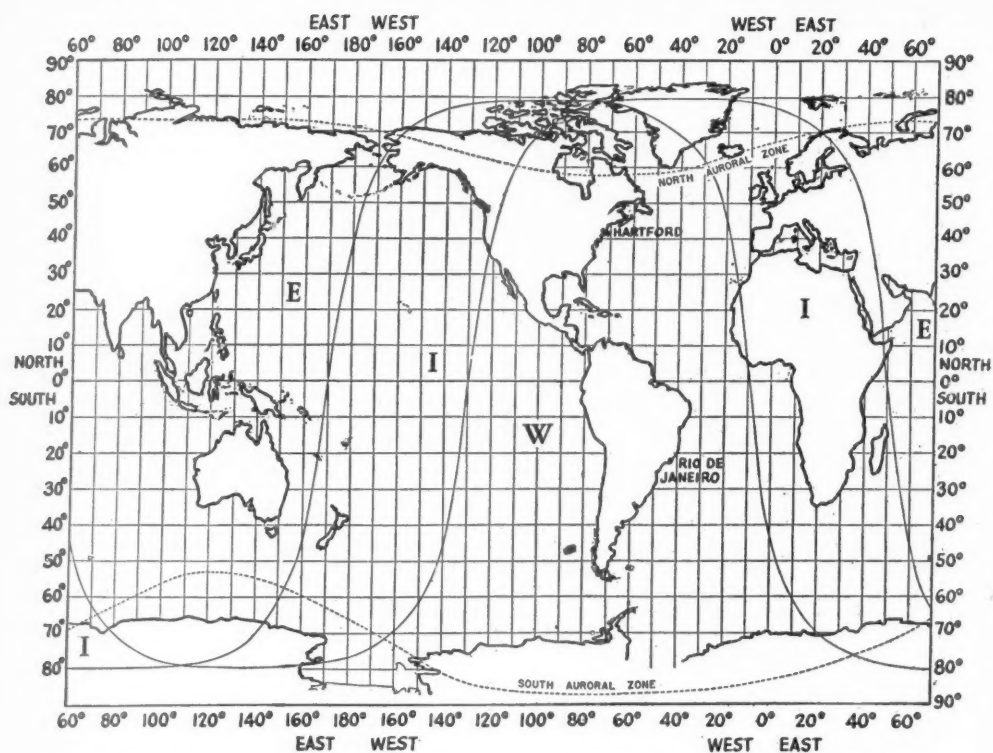

Fig. 5 — Modified cylindrical projection map of the world showing the three F_2 layer zones.
ocean areas. The addition of data from new ionospheric measuring stations confirmed this fact. To take account of this variation, the world is divided into three "zones," and separate F_2 layer charts are published for each zone. The proper chart to use is determined by the zone in which each control point is located. The zones are shown in Fig. 5.
outline map, Fig. 5. Next take a sheet of transparent paper¹ and draw a horizontal line in the center to represent the equator; also draw a vertical line in the middle to represent local time at Hartford. Place this sheet over Fig. 5 with your equator line on the equator, and with your Hartford time line on Hartford. Mark the locations of both Hartford and Rio on the transparent sheet.
Now return the transparent sheet to Fig. 5 very briefly to determine the zone in which each of the control points is located. In this example both control points are in the "W" zone, so we use the "W" zone frequency chart to read the values for both control points. At this point it will be convenient to rule up a working sheet to tabulate the figures. Four columns will be needed, headed (1) Local time at Hartford, (2) MUF at west control point, (3) MUF at east control point, and (4) MUF for path. Twenty-four lines will be needed to accommodate entries for each hour of the day.